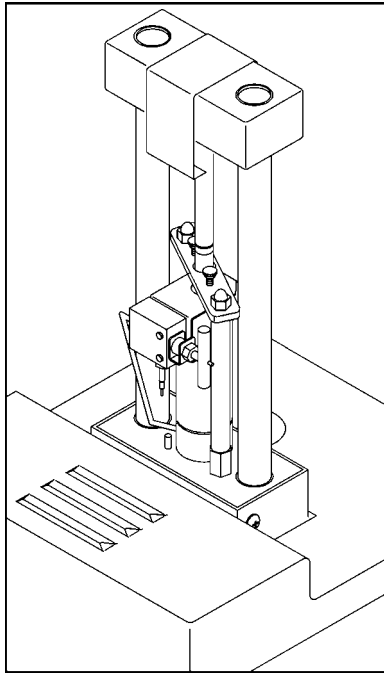

Figure 16
5. Slide the piston retaining bracket over the upper platen and piston T-handle. Turn the piston to lock the T-handle underneath the retaining bracket so that the handle cannot make contact with the cell clamp knurled screws during operation (see Figure 16).